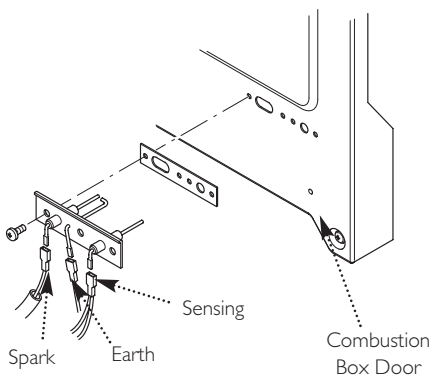

Fig. 51
13.5 Spark and Sensing Electrodes (Fig. 51)